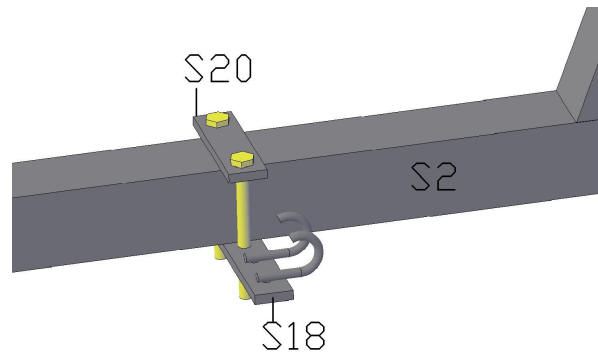

Fig. 26: Fix spring holder with counterparts
**Step 3** Clamp the fix spring holder to S2 using the counterpart S20. See Fig. 26